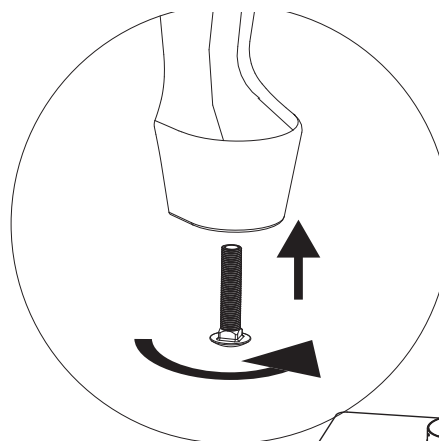

Figure 21.3
7. Use leveling bolts on legs to stabilize and level appliance (**Figure 21.3**).